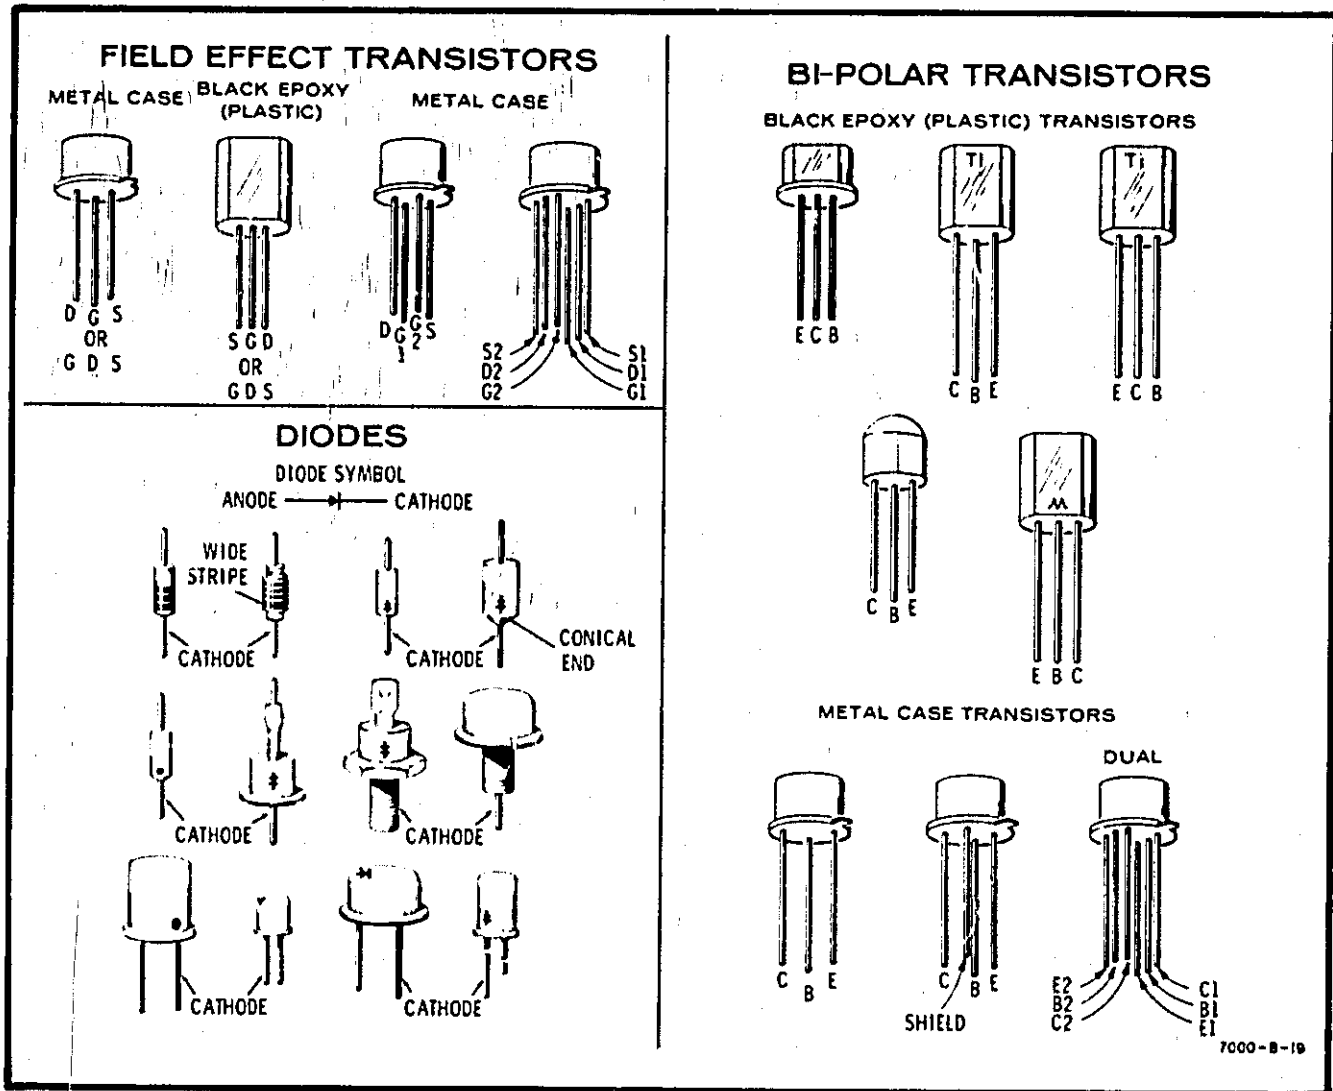

Figure 8-3. Example of Diode and Transistor Marking Methods
**8-47.** Figure 8-3 is included to help identify the leads on the common shapes and sizes of semiconductor devices. When removing a semiconductor, use long-